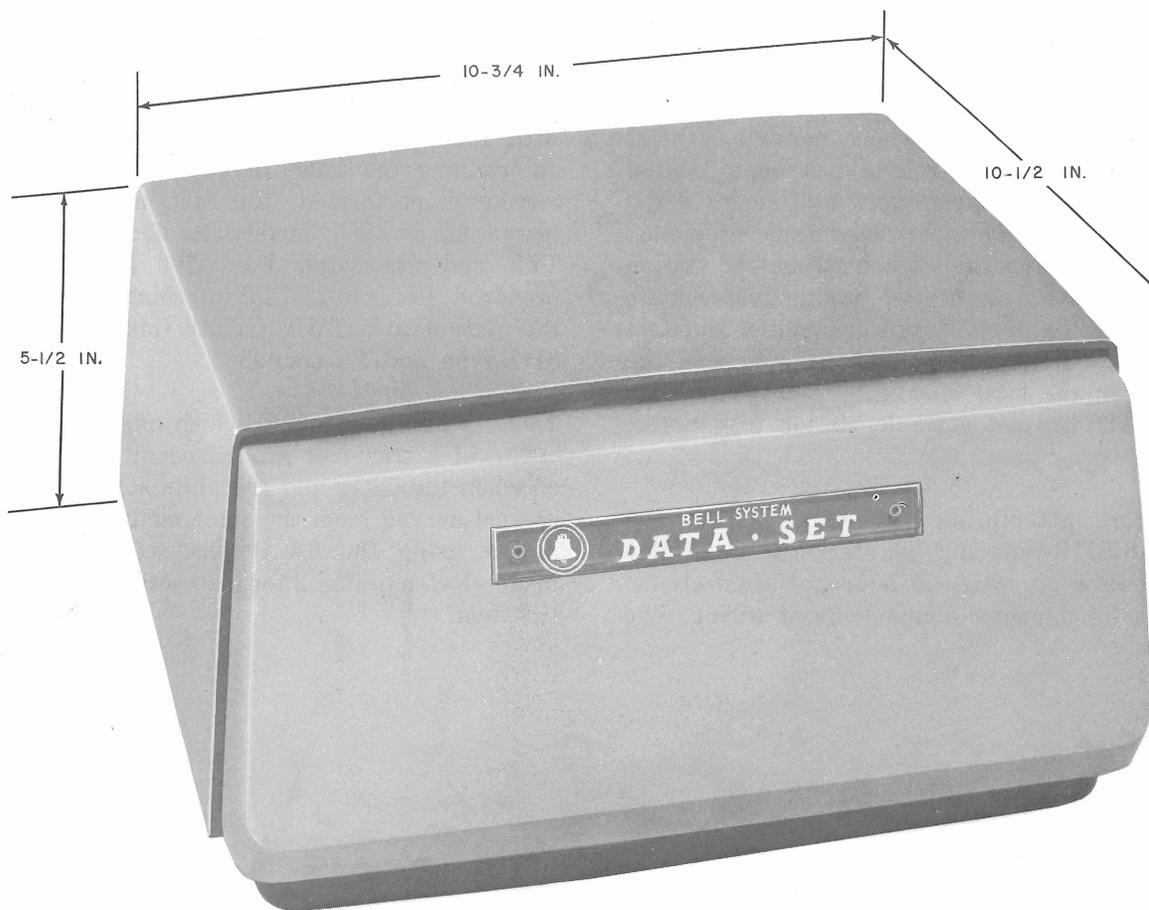

Fig. 1—Data Auxiliary Set 811B1 or Data Auxiliary Set 811B3—Front View
1.01 This section provides information and test procedures used in testing the Data Auxiliary Set 811B-type (Fig. 1), hereafter referred to in this section as a DAS 811B-type (or appropriate